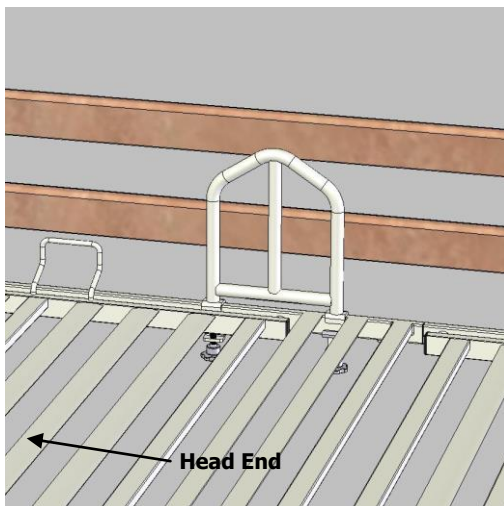

Figure 1
1. On the side which the grab handle is to be fitted, lift the side rails so they are locked in their highest position (Figure 1).